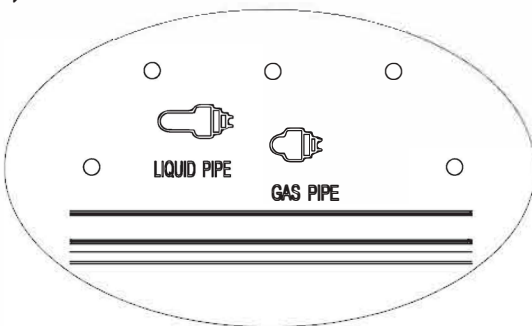
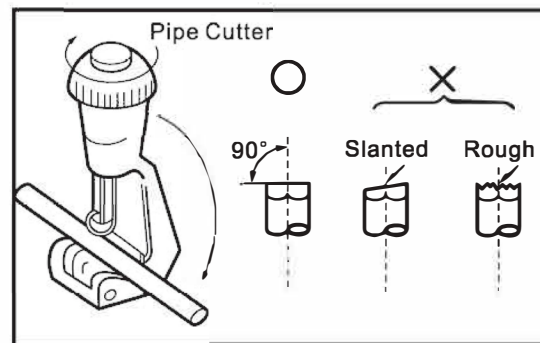

Fig.C.6.2
Fig.C.6.3
- 1) Cut the liquid pipe and gas pipe to the right length according to the position mark on the wall mounting plate (Fig. C.6.2). Ensure that the cut is flat (Fig. C.6.3).